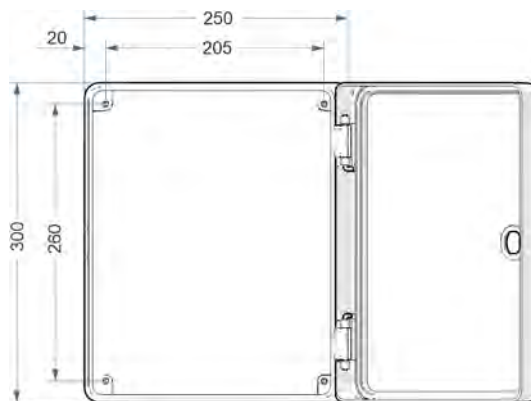

Fig. 6: Wall mounting: DryExx® Small
When installing on a mounting frame, attach the welding bolts supplied with the equipment to the intended surface as specified in Fig. 6 .
1. With another person, hold the control cabinet in place against the wall and prepare the fixings as described in Fig. 6 .